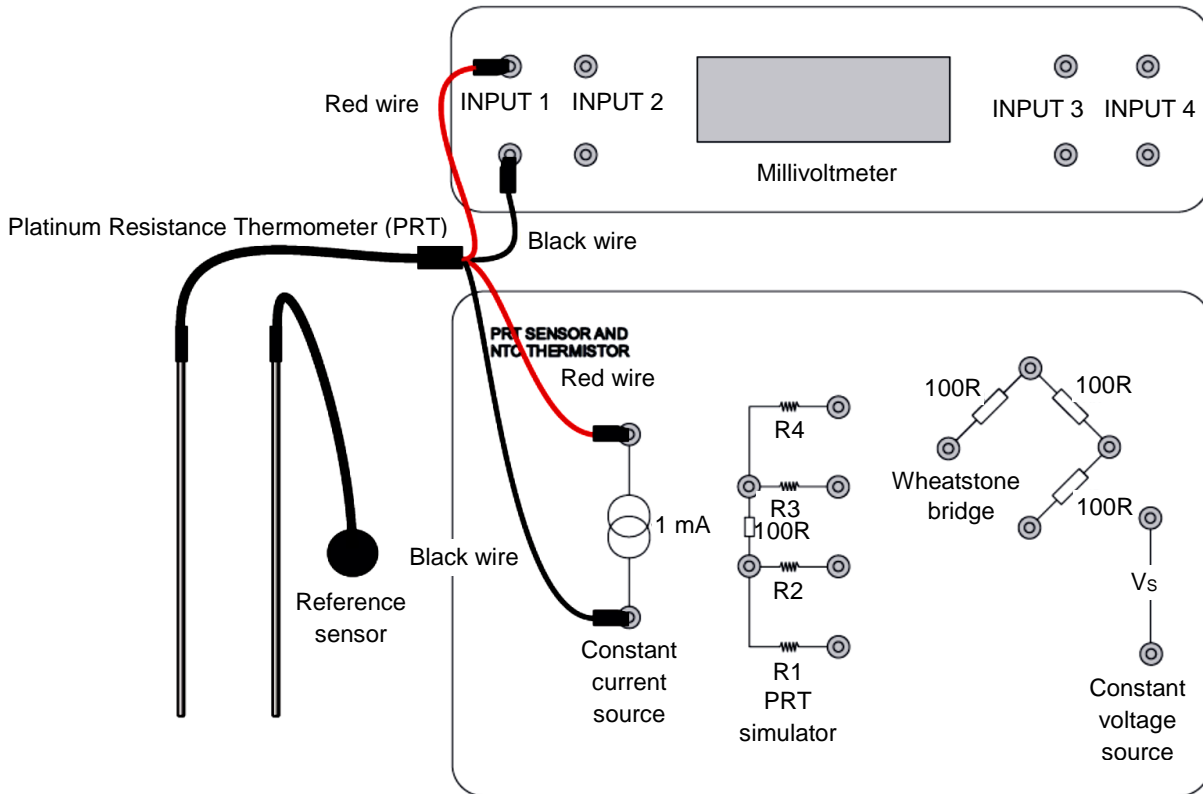

Figure 2
1. Connect the reference sensor to its socket and connect the PRT to the millivoltmeter and the constant current source as shown in Figure 2. Note that the PRT is connected as a four wire device.